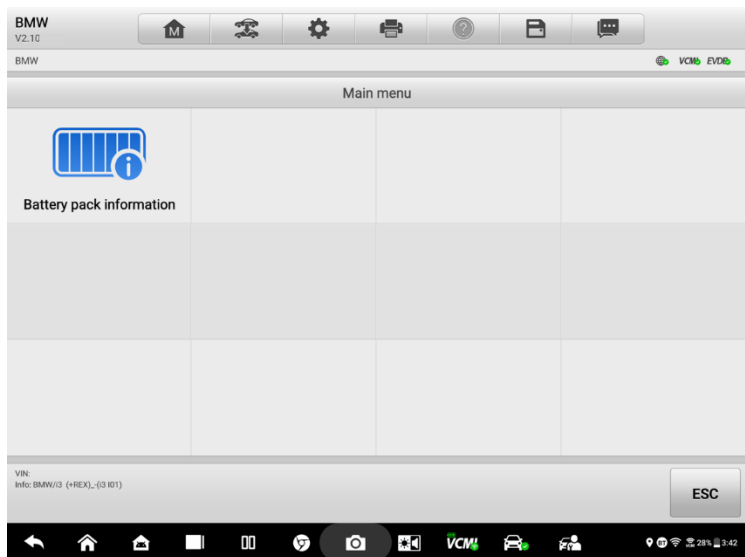

Figure 5-11 Main Menu on Vehicle Mode
1. Tap **Battery Pack Information** on the Main Menu (*Figure 5-11*).